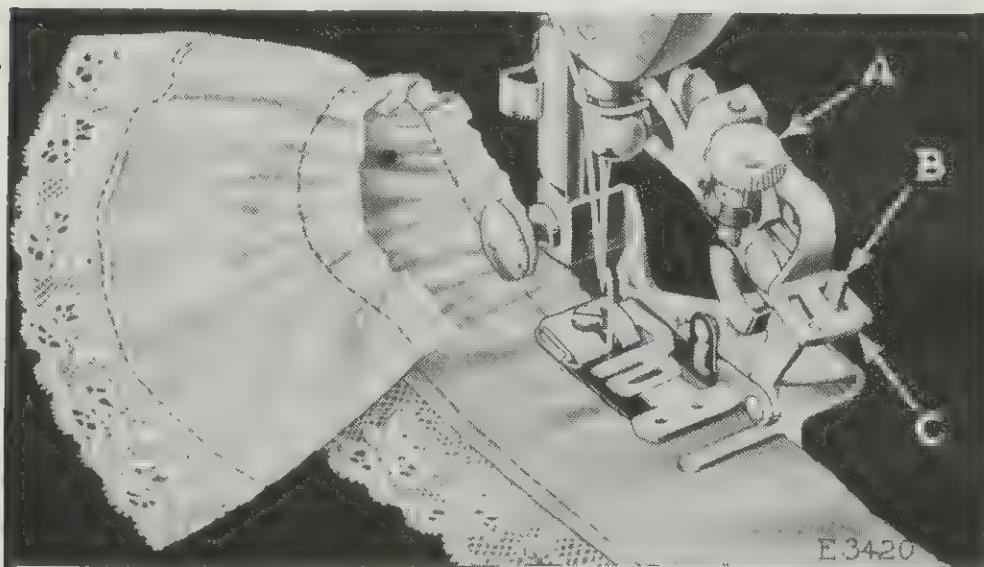

FIG. 33
Remove the presser foot and attach the ruffler in its place, connecting the arm with the needle clamp, as shown in Fig. 33.
**To make a gather or plait at every stitch,** raise the adjusting lever (C, Fig. 33) and move it to the left so that the projection (B, Fig. 33) will enter the slot marked "1" in the adjusting lever (C) when the lever is released. Place the material to be ruffled between the lower or separator blade and the ruffling blade, draw the material slightly back of the needle, lower the presser bar and commence to sew.
To make a finer gather or plait, shorten the stroke of the ruffling blade by turning the regulating thumb screw (A, Fig. 33) up, also shorten the stitch. To make a fuller gather or plait, lengthen the stroke of the ruffling blade by turning the regulating thumb screw (A) down, also lengthen the stitch. By varying these adjustments many pleasing varieties of work can be accomplished.